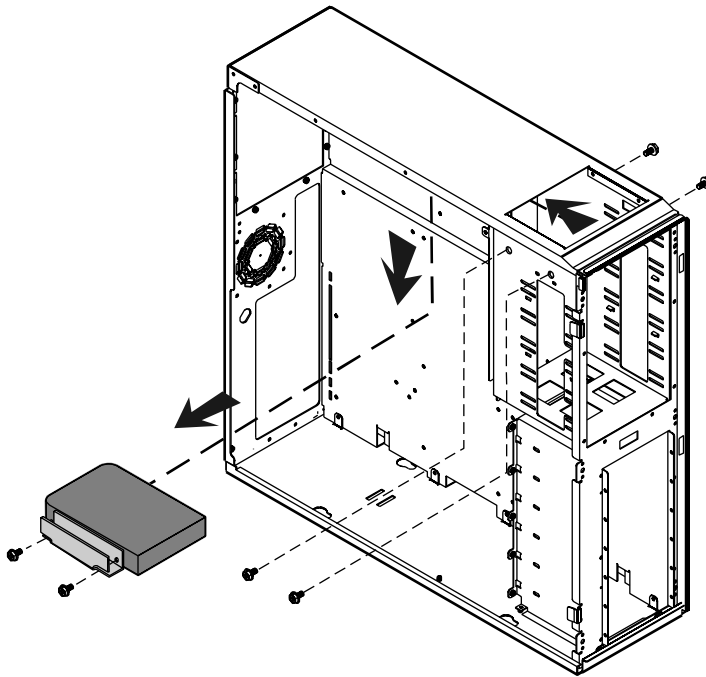

Figure 20: Removing the 3.5-inch Drive from the Top Drive Bay
4. Remove the two screws that secure the right side of the drive to the chassis and the two screws that secure the bracket to the left side of the 5.25-inch drive cage (see Figure 20).